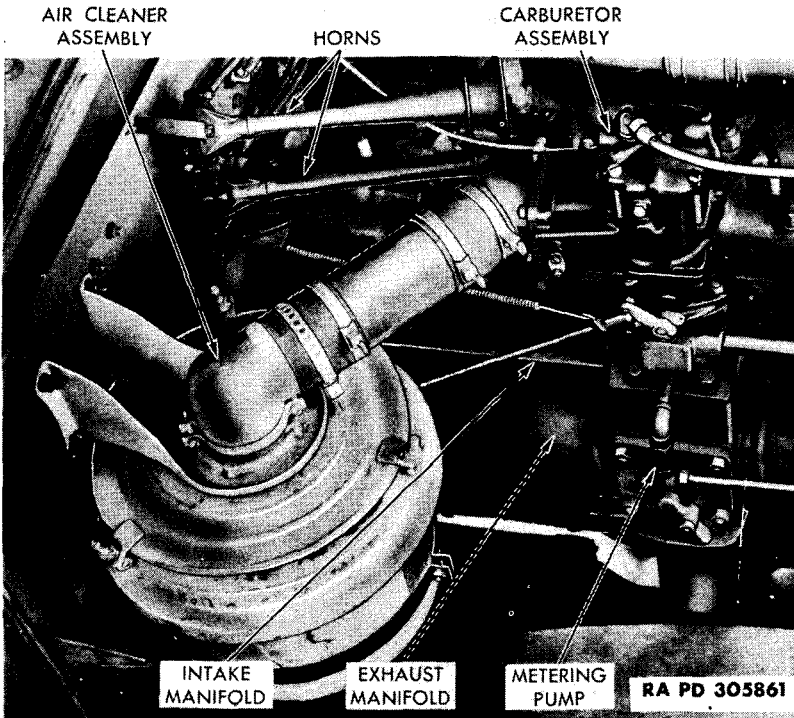

Figure 51—Air Cleaner and Carburetor Assemblies Installed
r. **Remove Air Horns** (fig. 51). Unscrew coupling nut at air line fitting at left side of air horns. Remove three nuts, lock washers, and bolts holding air horns to bracket. Lift horn assembly from brackets.
f. **Install Air Horns** (fig. 51). Place horns in position on bracket, install and tighten three bolts, lock washers, and nuts. Connect and tighten coupling nut at airline fitting (left side of horns).